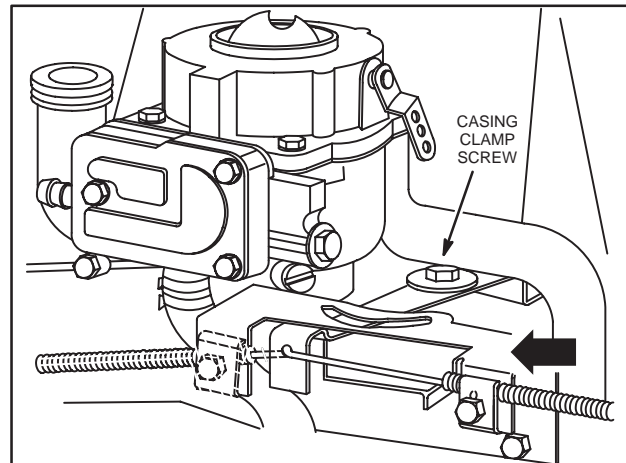

Fig. 7 – Remote Control Adjustment – Pre-Twin II
3. Move control casing and wire in direction shown by arrow, Fig. 7.